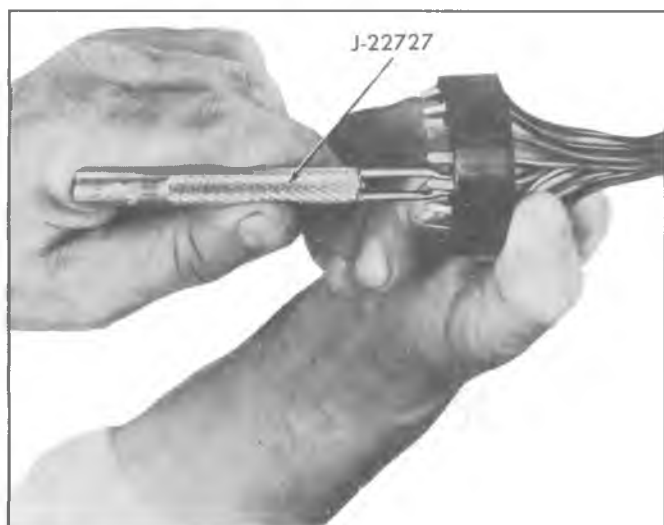

Fig. 15—Removing Wires from Connector
6. Mark the location of each wire in the half-moon connector and then remove each individual wire from the connector using Tool J-22727 (fig. 15). Insert the tool into the lower end of the connector and push in until the tool bottoms on the connector. Remove the tool and then pull the wire from the connector.